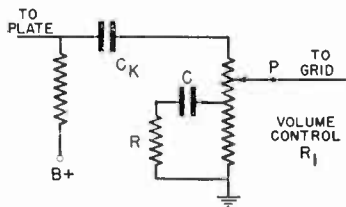

Fig. 7. Condenser C and resistor R connected in series across part of the volume control give automatic bass compensation.
*Automatic Bass Compensation.* The fact that the average human ear suffers a loss in low-frequency response at low volume levels has brought about the automatic bass compensation type of volume control illustrated in Fig. 7. Here again we find a combination of resistance, capacity and inductance controlling the voltage applied to the grid of a tube.